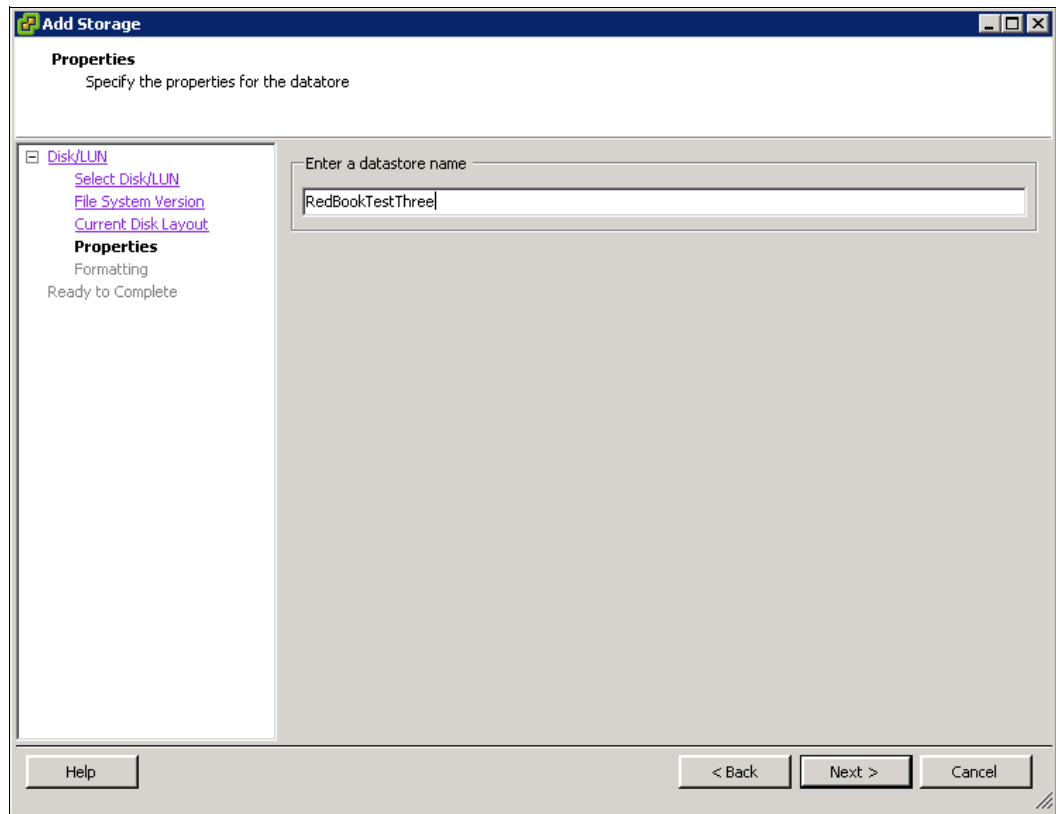

Figure 5-102 Adding Datastore name
8. Click **Next** to move through the wizard. A summary window of the current disk layout is shown, followed by the option to name the new Datastore. In our example, we chose RedbookTestThree, as shown in Figure 5-102.